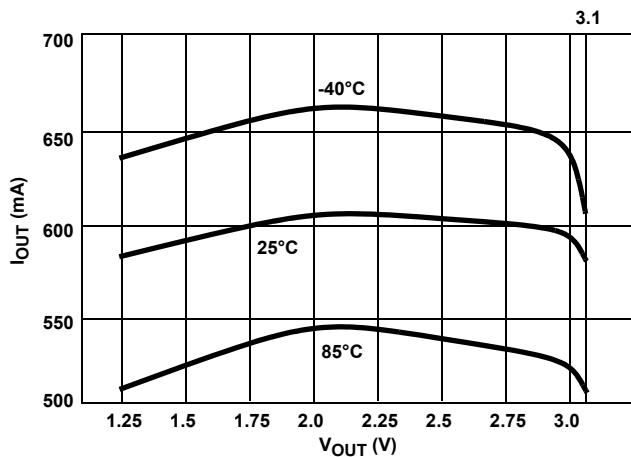

FIGURE 4. CURRENT REGULATION vs V_{OUT} ($V_{IN} = 3.3V$)
The ISL6118 has integrated current sensing on the power MOSFETs that allows for rapid control of OC events. Once an OC condition is detected the ISL6118 goes into its current regulation (CR) control mode. The ISL6118 CR level is set to a nominal 0.6A and is regulated to within $\pm 25\%$ over full temperature, bias voltage range and OC magnitude. The speed of this control is proportional to the level of OC. Thus a hard OC is more quickly controlled than a marginal condition. See Figures 4 through 7 for current regulation performance curves and waveforms.